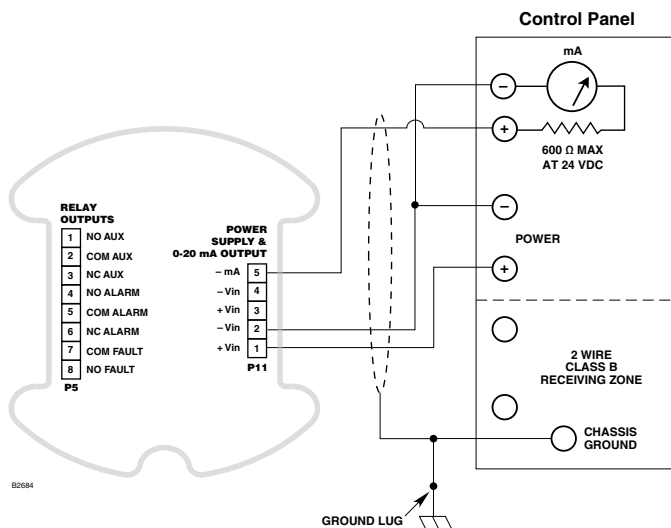

Figure 11—Single Detector Wiring (0-20 mA used, Relays not used)
- Figures 11 and 12 show wiring for single detector configurations.